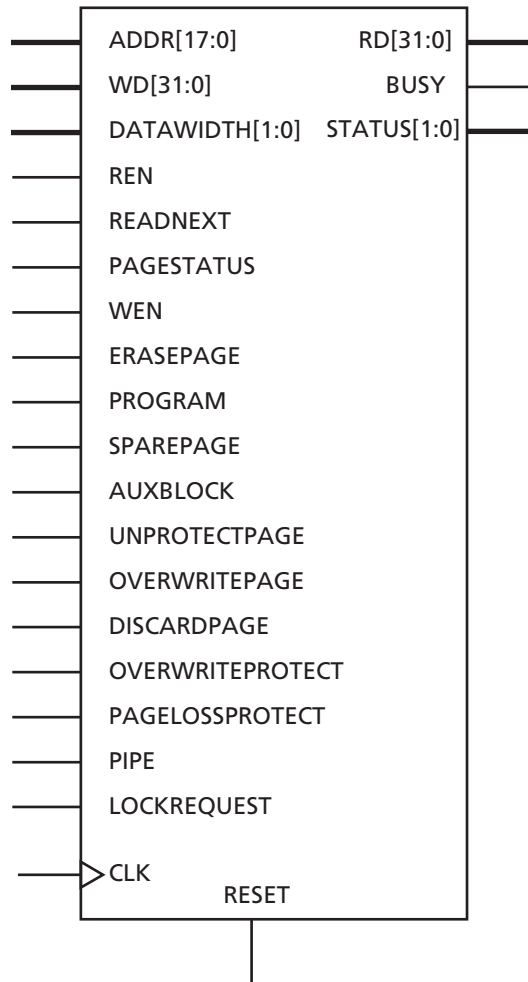

Figure 2-32 • Flash Memory Block
Fusion is the first FPGA that offers a flash memory block (FB). Each FB block stores 2 Mbits of data. The flash memory block macro is illustrated in Figure 2-32. The port pin name and descriptions are detailed on Table 2-19 on page 2-43. All flash memory block signals are active high, except for CLK and active low RESET. All flash memory operations are synchronous to the rising edge of CLK.